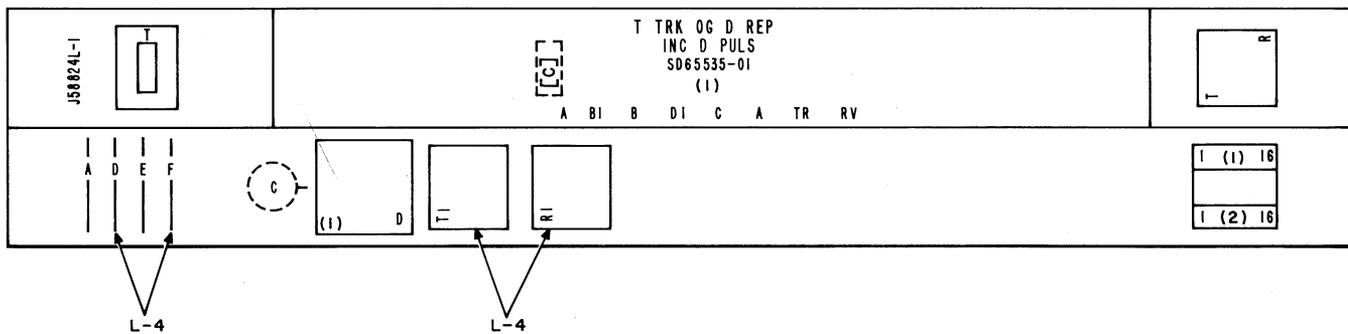

Fig. 56—J58824L, List 7 Tie Trunk—Location of List 4 Apparatus
1. SEE FIG. 56 OR 57 FOR MOUNTING EQUIPMENT.